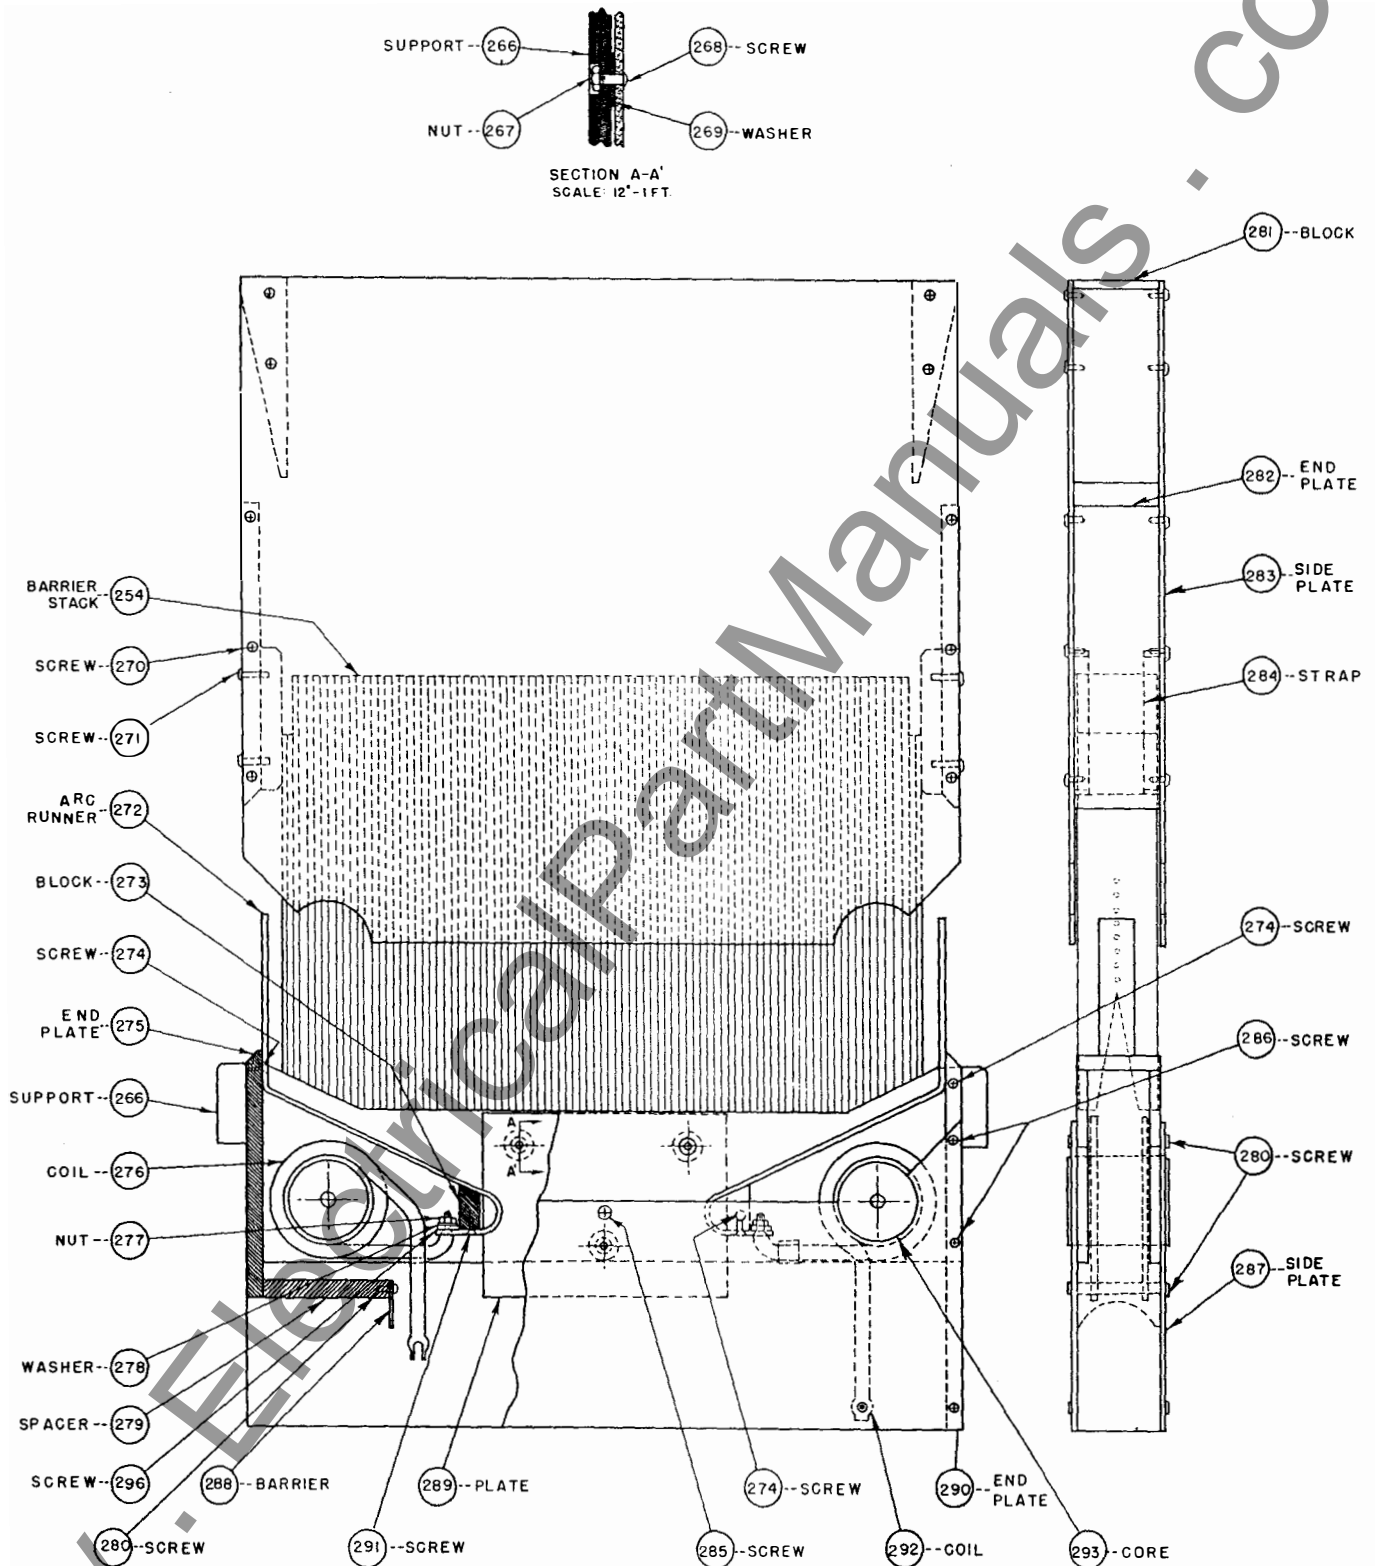

FIG. 8
ARC-CHUTE ASSEMBLY (Fig. 8)
BARRIER STACK (Fig. 8)
FRONT AND REAR ARC RUNNERS AND BLOWOUT COILS (Fig.8)
FLASH PLATES (Fig. 8)
1. Prepare breaker for servicing by removing phase barriers, arc chute top section, barrier stack, blowout side plates and arc chute lower section. All parts lift off easily without removing hardware, except for arc chute lower section which requires the blowout coil terminals to be loosened. Refer to Fig. 8.